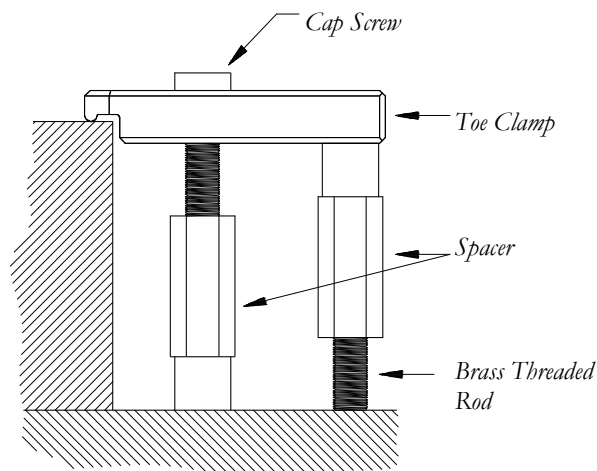

Figure 2
STEP 3. For work pieces from 2.0 inches to 4.0 inches thick, the threaded rod is attached to the toe clamp as shown in Fig. 2.
STEP 5. Another spacer is attached to the table or the rail as shown in Fig. 2.